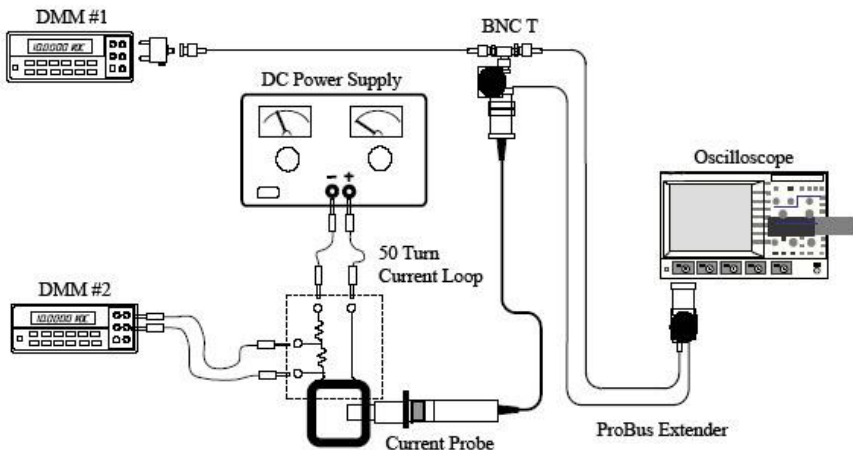

Figure 1, DC Accuracy Test Set Up
3. Using banana patch cords, connect the 'V Source' terminal of the 50 Turn Calibration Loop, AP015-CF01, to the positive output of the power supply. Connect the 'V Return' terminal to the power supply negative terminal. (Refer to Figure 1, DC Accuracy Test Set Up.)
2. Connect the AP015 (without the compensation box cover) to the oscilloscope using the setup for the DC Accuracy check in the Performance Verification Procedure. (Refer to Figure 1 in the Performance Verification section).